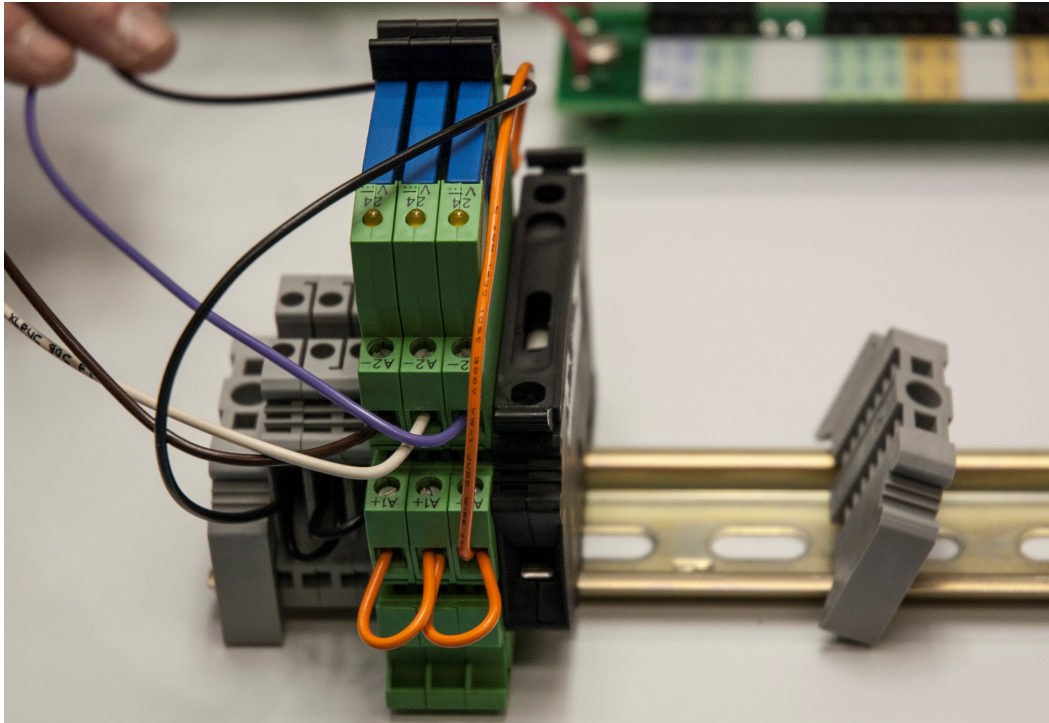

Figure 4
8. Secure the gray block by tightening the center screw. See fig. 4